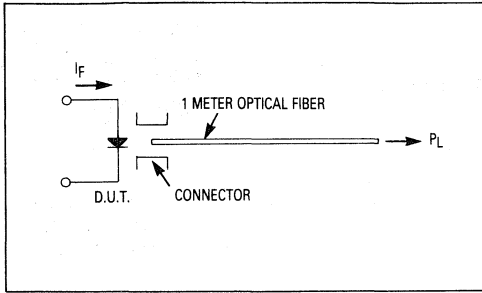

Figure 1. Launched Power Test Configuration
(1) Printed Circuit Board Mounting
(2) Total Power Output, P_O , is defined as the total power radiated by the device into a solid angle of 2π steradians.
(3) Power Launched, P_L , is the optical power exiting one meter of 0.045" diameter optical fiber bundle having $NA = 0.67$, Attenuation = 0.6 dB/m @ 940 nm, terminated with AMP connectors. (See Figure 1.)